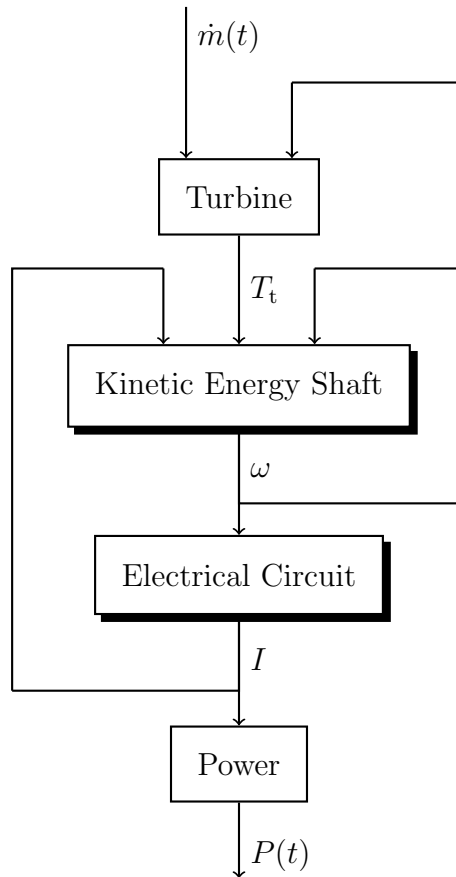

Figure 5: Causality diagram.
3. The causality diagram is shown in Figure 5.